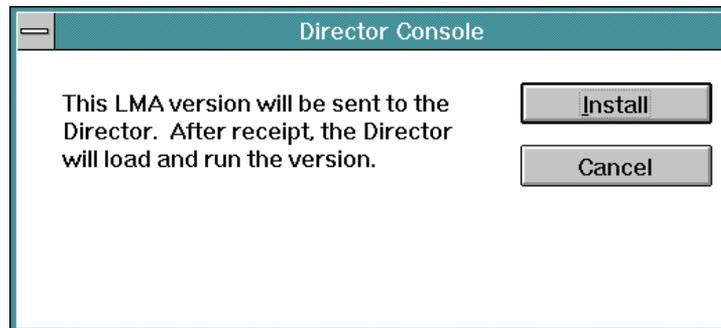

Figure 160. Install LMA Version to Director Message Box
10. At the *LMA Versions* dialog box, select (highlight) the LMA version to be installed and click the *Install* button. The message box shown in Figure 160 appears.